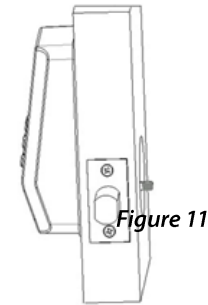

Figure 11
1. Install the **Front panel Assembly** of the lock onto the door (Please see VI. Install the Front panel Assembly). As shown in **Figure 11**: